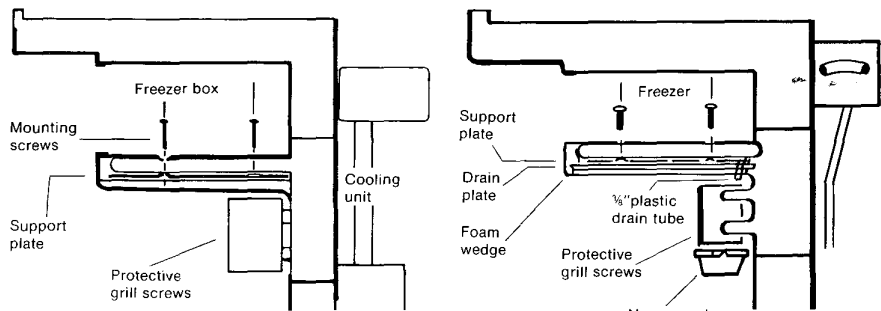

FIGURE 52
1. With the refrigerator in the upright position, remove the mounting screw in freezer box as shown in **Fig. 52**.
2. Remove the protective grill from refrigerator cooling coil (**Fig. 52**).